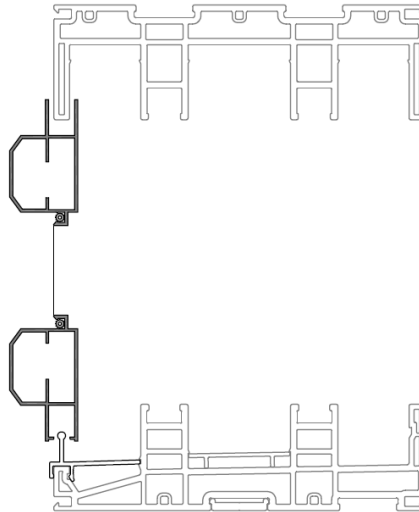

Figure 27
- 3) Insert tail piece straight into the utility groove. (See Figure 27)
- 5) Insert tail piece and push straight into accessory groove locating (See Figure 27)
- 1) Position panel so that top of panel slips onto frame header fin. Swing bottom of panel in until bottom of panel is aligned over sill add on fin and set panel roller on fin. (See Figure 27)